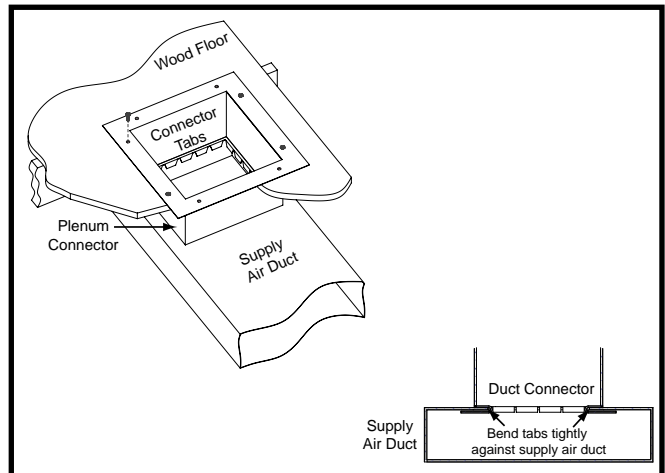

Figure 4. Duct Connector Installed
6. Install the duct connector back in the floor opening with the bottom tabs extending into the supply air duct. See Figure 4.
8. Bend the connector tabs on the bottom of the plenum connector upwards and as tight as possible against the supply air duct. See Figure 4.